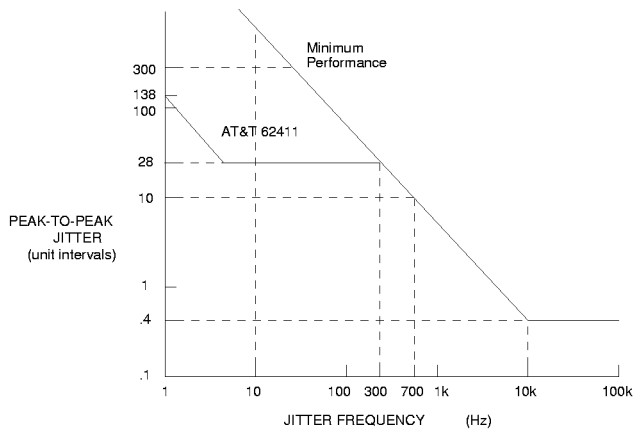

Figure 7. Minimum Input Jitter Tolerance of Receiver
15. Jitter tolerance for 0 dB input signal level. Jitter tolerance increases at lower frequencies. See Figure 7.
16. See Receiver Jitter Tolerance Plot, Figure 7.
A noise and cross-talk filter removes signal components that are coupled onto the line from other cables. The clock and data recovery circuit exceeds the jitter tolerance specifications of Publication 43802, Publication 43801, AT&T 62411, and TR-TSY-000170. Jitter tolerance is shown in Figure 7. The RTIP and RRING inputs are biased to an intermediate DC level and treat the input signal differentially.
The receiver jitter tolerance is shown in Figure 7. The CS61310 jitter tolerance exceeds AT&T 62411 for synchronizers.